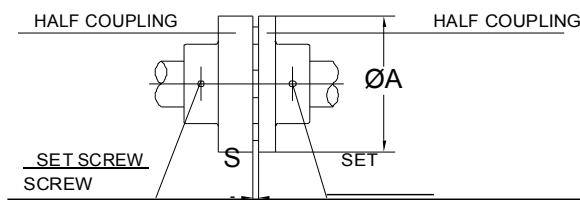

Fig. 7
- 5 - With a proper spacer check the distance between the two coupling halves. The gap value "S" should be as listed on table 2 or as given by the coupling manufacturer. In the event an adjustment is necessary, loosen the set screws on the coupling half and with a screw driver move the coupling half to attain the gap "S" (see fig. 7). Then tighten the set screw and rotate the rotor by hand to make sure, once more, that there is no obstruction.